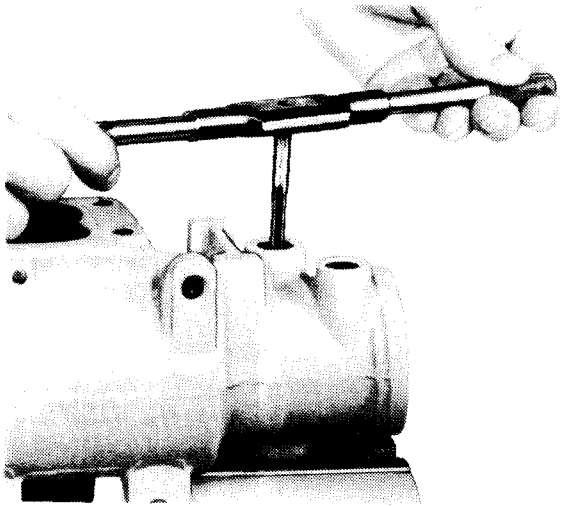
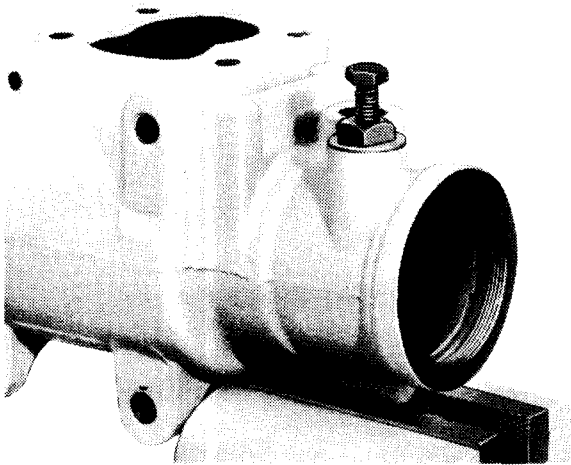

Fig. 11-79 Threading Connector with Tap
Fig. 11-80 Removing Connector
(1) Inspect gear housing bore. If badly scored or worn, replace the gear housing.
(2) Check hose connectors. If damaged, scored, or brinelled, remove connectors as follows.
(3) Tap connector using 5/16-18 tap (fig. 11-79).
(4) Thread bolt with nut and flat-washer attached into connectors.
(5) Hold bolt and rotate nut from bolt to remove connectors (fig. 11-80).